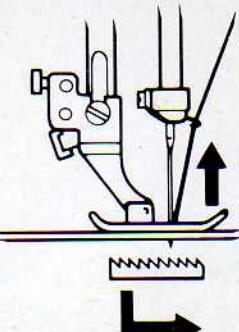

Fig. 1
The feed dogs (27) are at work inside your machine under the needleplate creating an upward force that moves fabric under the presser foot. As the stitch is being set into the fabric, the feed dog comes up to help the presser foot keep fabric taut, and to advance fabric one stitch at a time (Fig. 1).